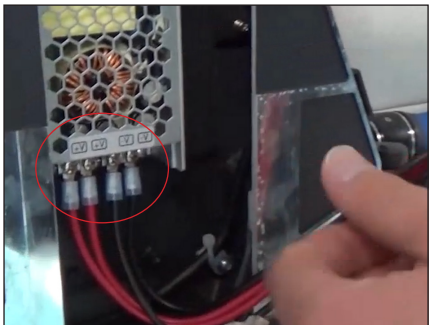

Figure 8: Disconnect Cables from Power Supply
- Use a Phillips screwdriver to loosen the connections on the power supply and disconnect the cables extending from the board. Refer to **Figure 8**.
- Push in the positions on the spring-loaded terminal block and disconnect the cables extending from the board. Refer to **Figure 8**.